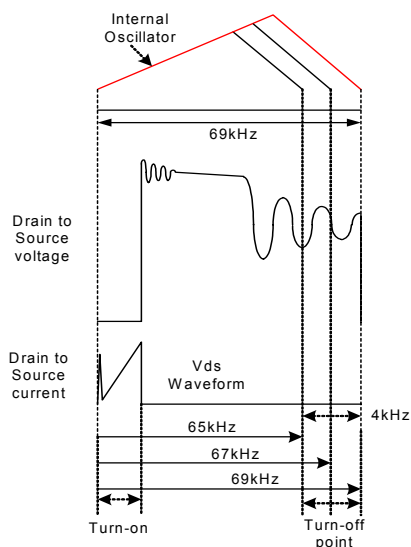

Figure 10. Frequency Modulation Waveform
7. Frequency Modulation : EMI reduction can be accomplished by modulating the switching frequency of a switched power supply. Frequency modulation can reduce EMI by spreading the energy over a wider frequency range than the band width measured by the EMI test equipment. The amount of EMI reduction is directly related to the depth of the reference frequency. As can be seen in Figure 10, the frequency changes from 65KHz to 69KHz in 4mS for the FSDM0365RNB. Frequency modulation allows the use of a cost effective inductor instead of an AC input mode choke to satisfy the requirements of world wide EMI limits.